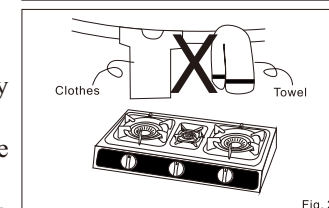

Fig. 2
- Use for cooking only. Do not dry towels, clothes, etc., over it. (Fig. 2)